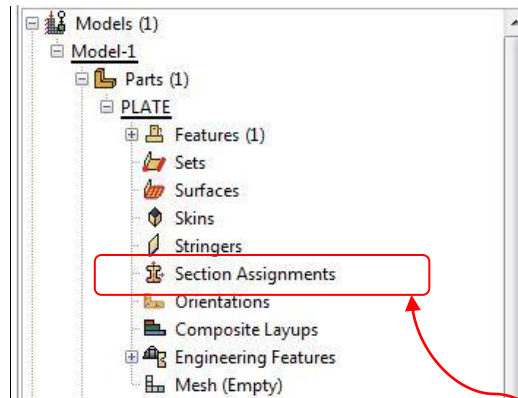

Figure 11. Model Tree Expansion (Parts)
- Now that the shell section has been created, it can be assigned to the geometry. In the model tree, click the + to the left of the Parts icon, this will further expand the model tree's options. Next, click the + to the left of the part called **PLATE**, further expanding the model tree (Figure 11).